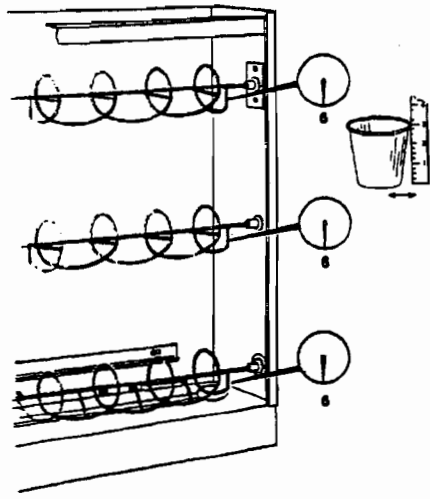

FIGURE 3.16
- B. See page 4.12 - Figure 3.16 which shows the spirals in the 6-6-6 position indicating all three spirals should be synchronized to the 6 o'clock direction. If not, perform following steps: